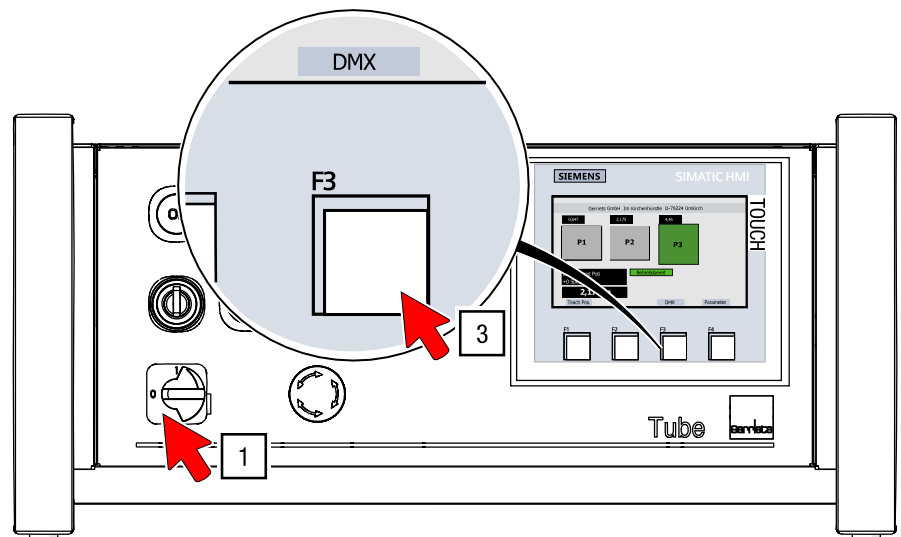

Fig. 50: Controlling a roller screen with DMX – buttons on the control unit
1. Turn the main circuit breaker to the “I” position to switch on the control unit (see Fig. 50).
3. Select the “DMX” menu on the touch display (Fig. 50).